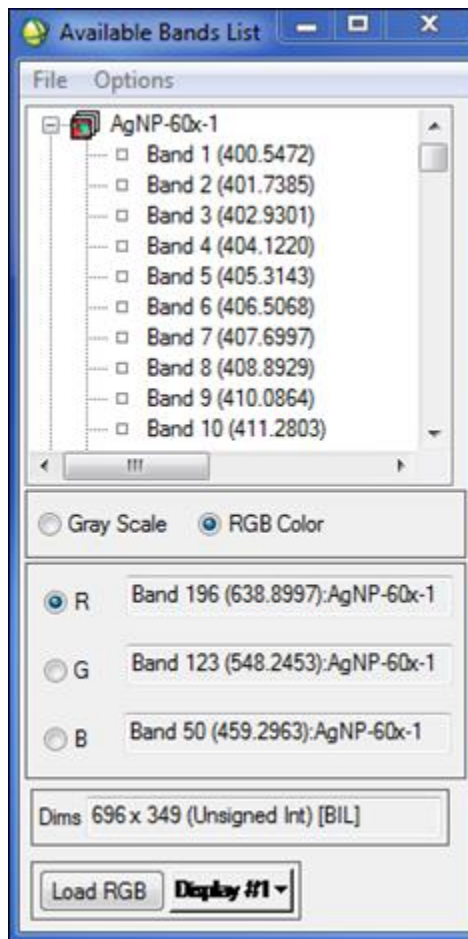

Figure 2.4a. Available Bands List
- Upon opening an image file, the file name appears in the Available Bands List (Figure 2.4a).